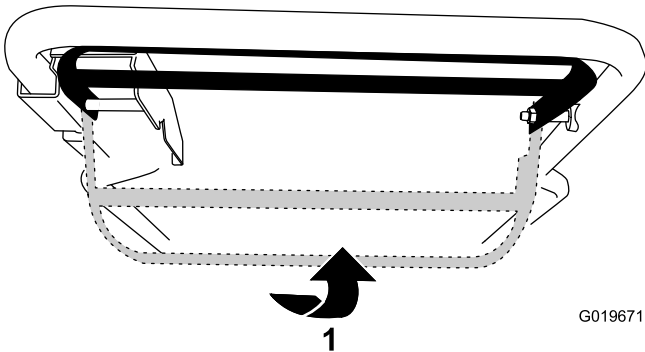

Figure 16
- **To operate the self-propel drive without engaging the blade:** Raise the blade-control bar to the handle (Figure 16).